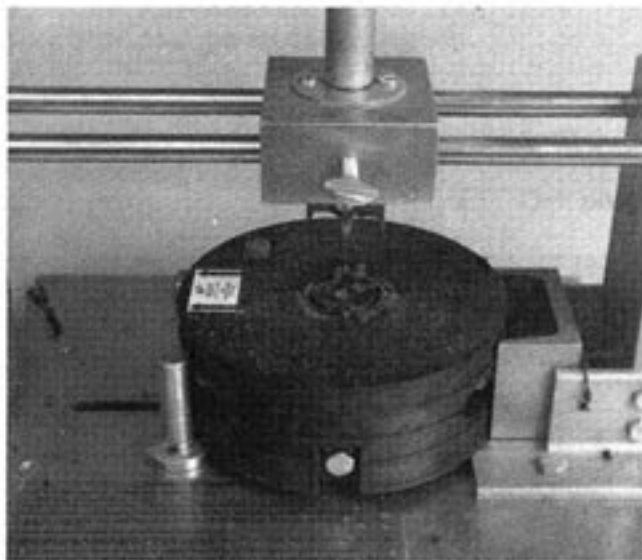
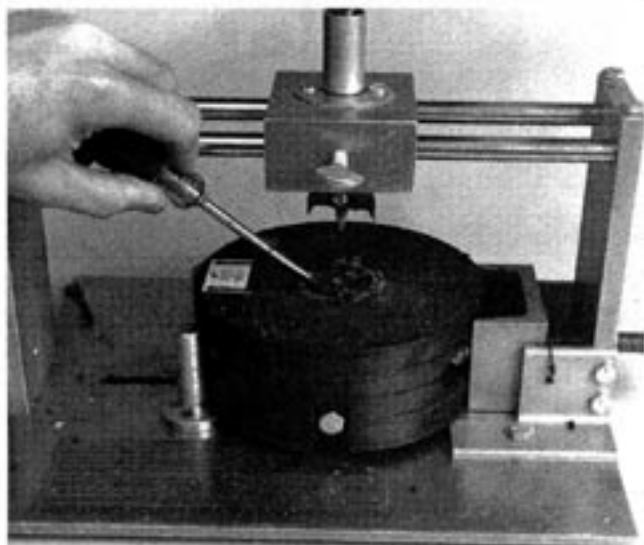

Figure 12 — Cutting Through Plastic Shell
Figure 13 — Removing Plastic Disc
6.08 Cut through the black plastic of End Plate until foam is just visible in ring. (Figure 12) Use screwdriver to pop out plastic disc (Not necessary for A, B, C, and D blades). (Figure 13) Continue cutting through foam and lower black plastic until stop collar on shaft bottoms on bearing block. Never bring blade back up through the End Plate while it is turning.